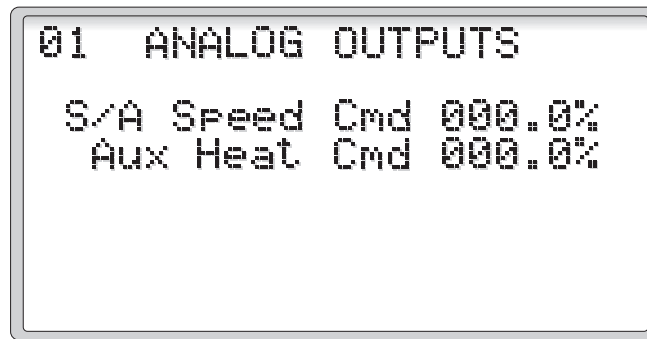

Figure 18
2.3.1.2.4 Analog Outputs (Figure 18)